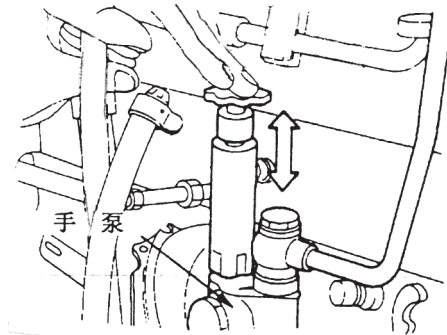

Fig. 1.19
1.3.10 Air exhaust of oil injection pump (See Fig.1.19)